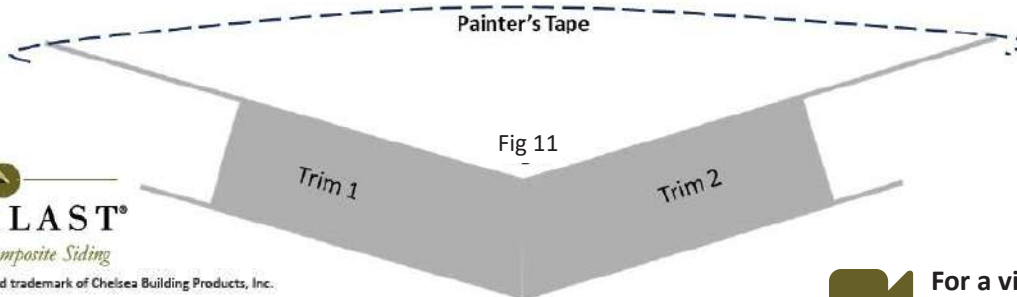

Fig 11
- Secure both trims together at the glued surfaces (Fig 11). Make sure you line up your ends and joint.